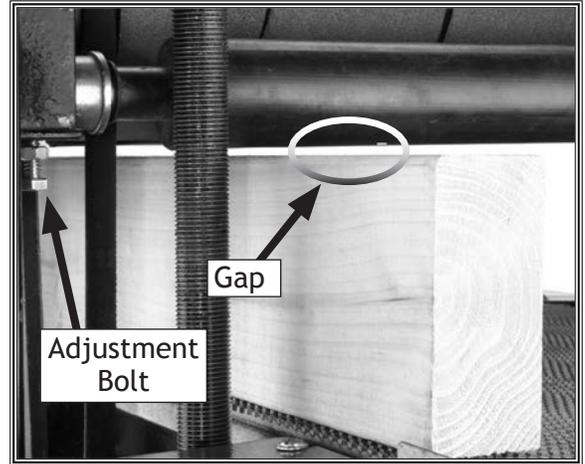
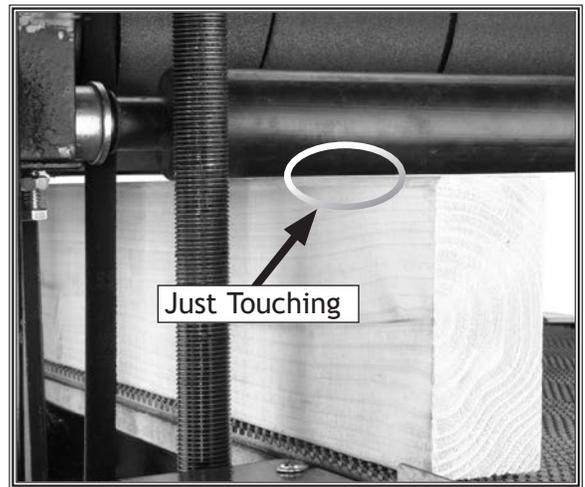

Figure 39. Gauge boards below rollers.
Figure 40. Gauge boards touching rollers.
6. Turn the adjustment bolt (Figure 39) as required so the roller just touches the gauge board (see Figure 40).
8. Repeat Steps 6-7 with the second pressure roller. Each pressure roller should look like Figure 40 when properly adjusted.
9. Tighten the jam nuts on the adjustment bolts (see Figure 39) to lock the adjustment.